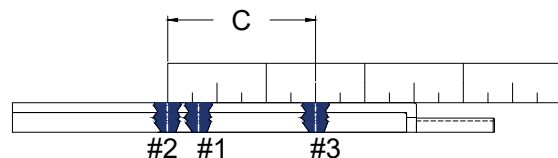

Figure 12: Setting length scribe
4. From the seal face location, measure back along the shaft to the specified operating length (C) and scribe a third line (Line #3, Figure 12).